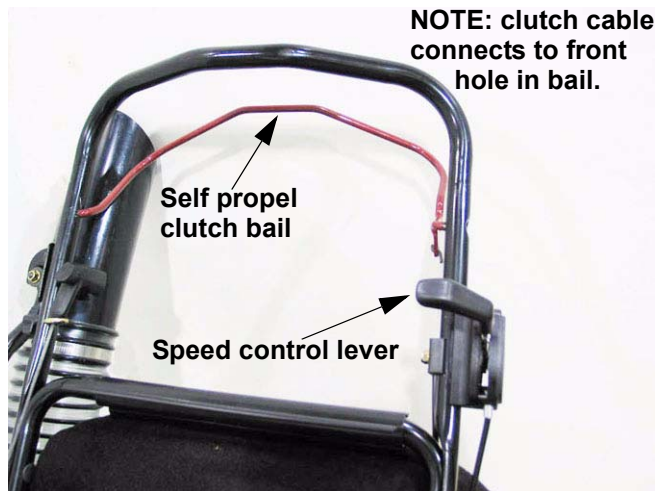

Figure 2.3
- 2.3. Inspect variable speed pulley for full movement. Run the self propel mechanism through its full range of speeds. See Figure 2.3.